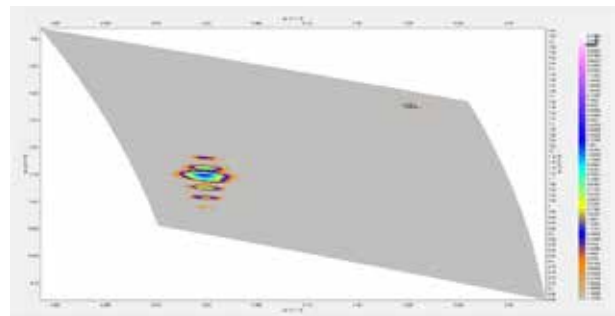

Figure 4 - Si (224) RSM acquired on a conventional diffractometer
Figure 4 shows a RSM acquired on this sample near the Si (224) reflection using a conventional diffractometer. The locations and intensities of the peaks are shown in the table beneath the figure.